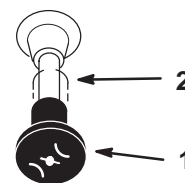

Figure 12
7. After the engine starts, move the choke to off (Fig. 12). If the engine stalls or hesitates, move the choke back to on for a few seconds. Then move the throttle lever to desired setting. Repeat this as required.